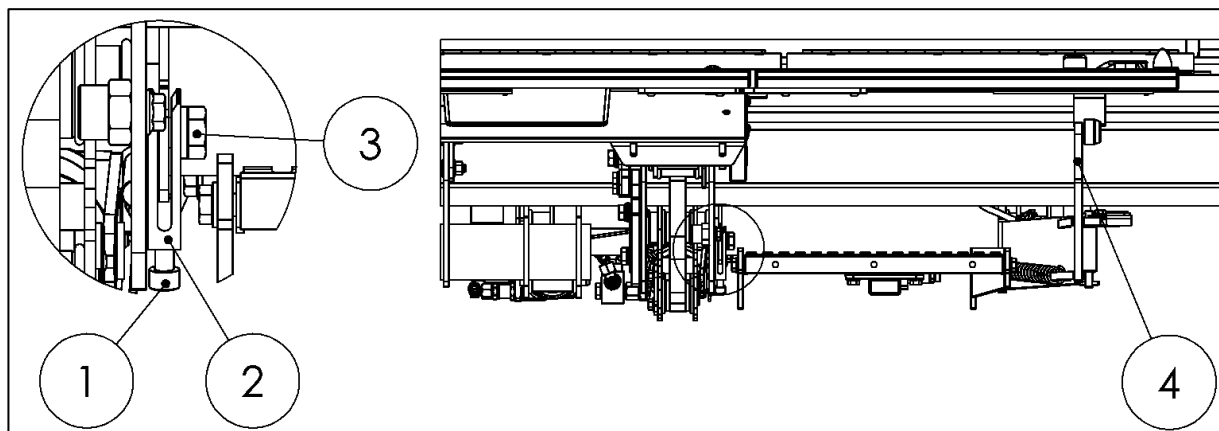

Fig. 72
If necessary, adjust the height of the foldover section on the right side of the platform using the right-hand adjustment fork (2) (adjustment screw accessible from below) (see Fig. 72).